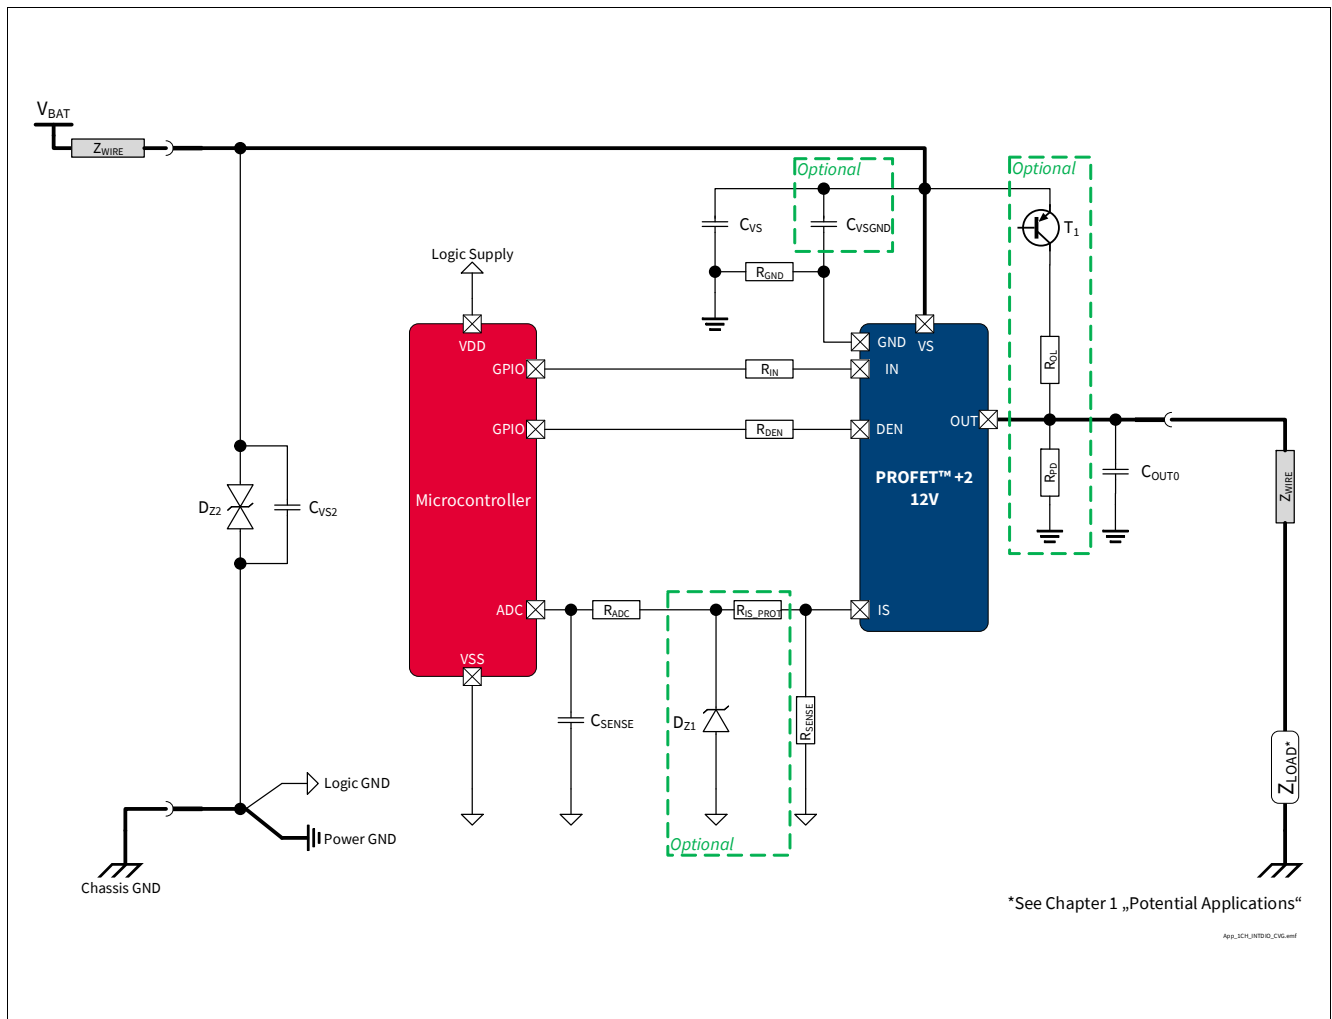

Figure 37 BTS7008-1EPP Application Diagram
1.10, 2020-12-14	<p>Typo fixed (PROFET™+2 → PROFET™ +2)</p> <p>Figure 1, Figure 16, Figure 17, Figure 18, Figure 20, Figure 21, Figure 22, Figure 25, Figure 29, Figure 30, Figure 34, Figure 37 updated</p> <p>Chapter 1, Chapter 6.1, Chapter 6.1.3, Chapter 6.1.4, Chapter 8.2, Chapter 9.2.2 updated</p> <p>Chapter 8.4.1 updated (typo fixed)</p> <p>P_7.4.5.1, P_7.4.5.2, P_7.4.5.3, P_7.4.5.4, P_7.4.5.6, P_7.4.5.7 updated (added in Note or Test Condition: See Figure 15)</p> <p>P_8.6.4.1 updated (added in Note or Test Condition: See Figure 26)</p> <p>P_8.6.4.2 updated (added in Note or Test Condition: See Figure 27)</p> <p>P_9.6.0.6 updated (Parameter: SENSE Operative Range for k_{ILIS} Operation ($V_S - V_{IS}$) → Saturation Voltage in k_{ILIS} Operation ($V_S - V_{IS}$))</p> <p>P_9.6.0.7 updated (Parameter: SENSE Operative Range for Open Load at OFF Diagnosis ($V_S - V_{IS}$) → Saturation Voltage in Open Load at OFF Diagnosis ($V_S - V_{IS}$))</p> <p>P_9.6.0.8 updated (Parameter: SENSE Operative Range for Fault Diagnosis ($V_S - V_{IS}$) → Saturation Voltage in Fault Diagnosis ($V_S - V_{IS}$))</p>
1.04, 2019-10-15	<p>P_8.7.21.1, P_8.7.21.7, P_8.7.21.8 updated (added in Note or Test Condition: link to Figure 24)</p> <p>P_7.5.20.5 updated (added in Note or Test Condition: see Figure 18)</p> <p>P_7.5.20.12 updated (added in Note or Test Condition: see Figure 20; deleted unnecessary space in Symbol: $dV_{OUT} / dt \rightarrow dV_{OUT} / dt$)</p> <p>P_8.7.21.6 updated (added in Note or Test Condition: see Figure 25)</p> <p>P_9.7.20.1 updated (added in Note or Test Condition: see Figure 32)</p> <p>Figure 1, Figure 37 updated</p> <p>P_4.3.0.7 added</p> <p>Table 22 updated</p> <p>Chapter 5.1 updated (added: see Chapter 10 for the complete application setup overview)</p> <p>Chapter 9.2 updated ($2V \rightarrow V_{DS(OLOFF)}$)</p> <p>General: updated (ReverSave™ → ReverseON)</p>
<p>1.01, 2018-06-14</p>	<p>Page numbering corrected Figure Application Diagram, Figure 29, Figure 37 updated</p>